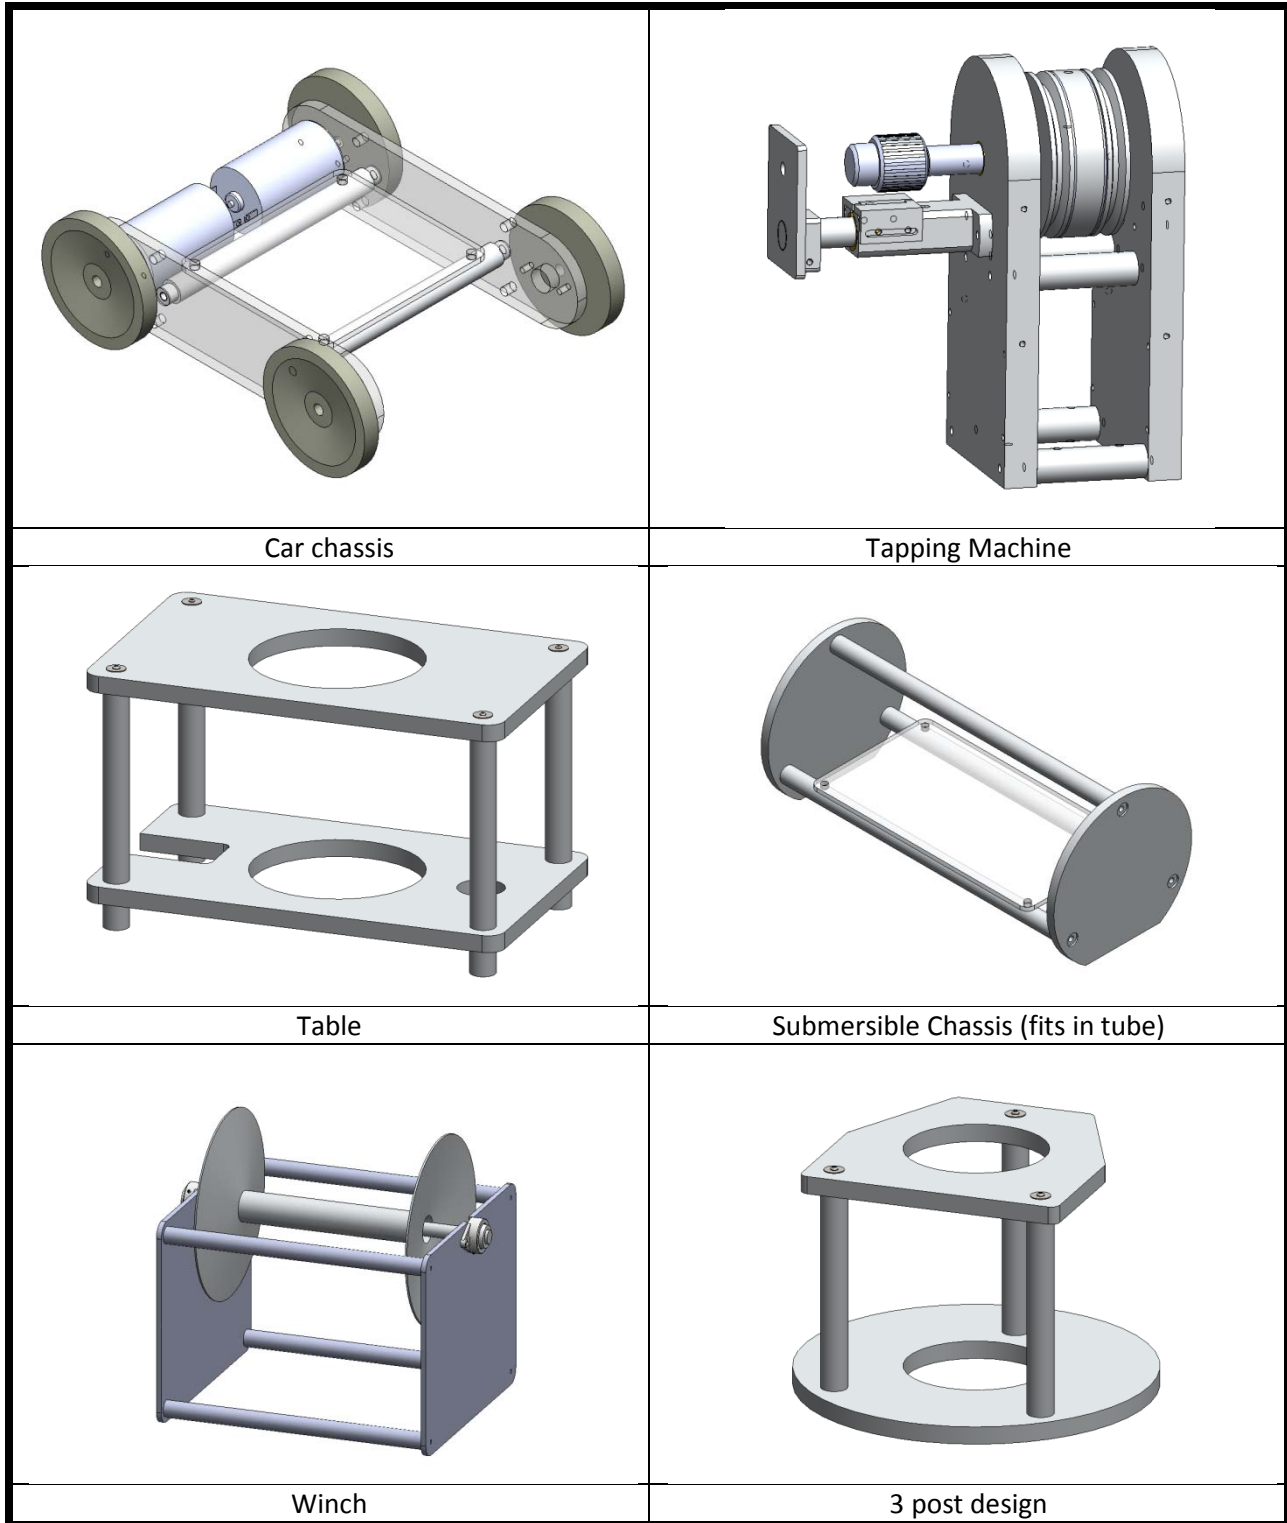

Figure 4.4 – Examples of how posts can be used
- Figure 4.4 shows examples of how posts can be used. (eg. Car chassis, table, ROV, etc.)